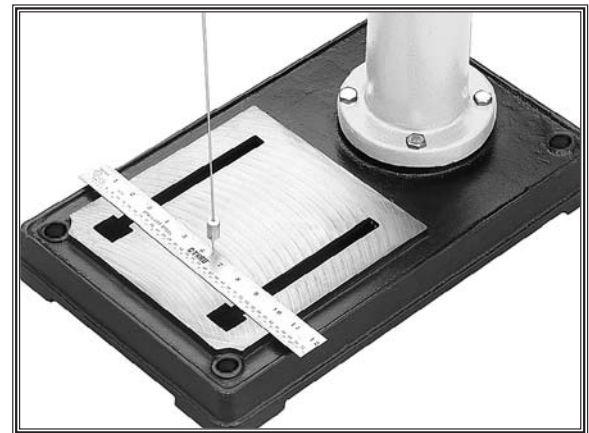

Figure 15. Aligning headstock with base.
6. Center a tape or ruler on the base, and suspend a plumb bob from the center of the headstock spindle so it is over the tape/ruler as shown in **Figure 15**.